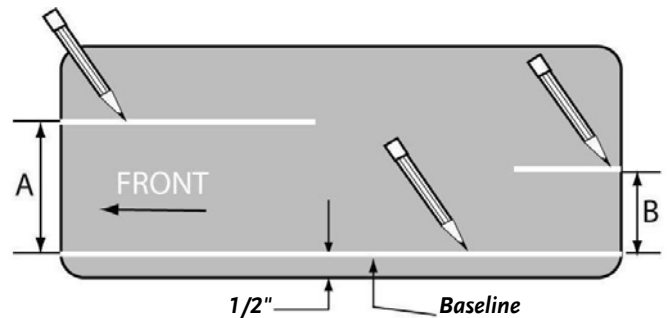

Figure 22 Template Cut to Shape and Marked
- j) Draw a line 1/2" from the bottom edge of the Template Board (**Figure 22**). This represents the bottom of the Discharge Chute or Baseline.